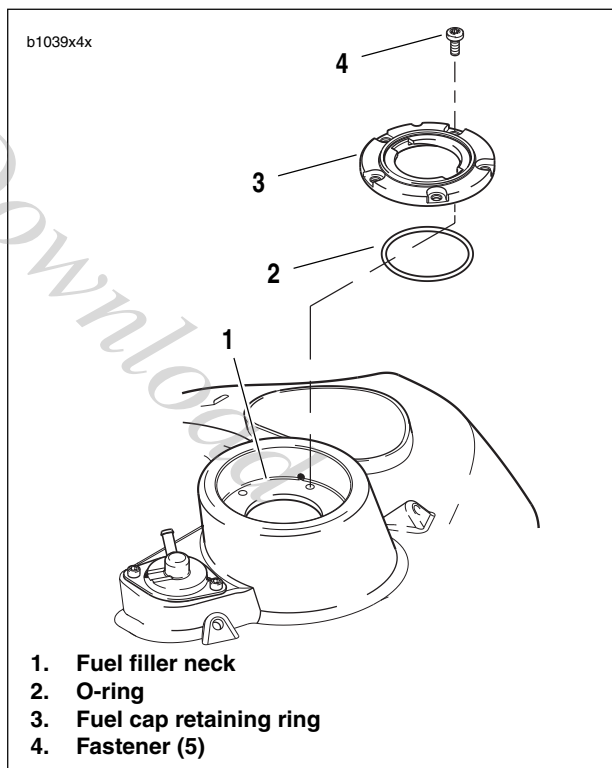

Figure 4-108. Fuel Cap Retaining Ring
3. See Figure 4-108. Remove fasteners (4) securing fuel cap retaining ring (3) to fuel filler neck (1).
4. Remove fuel cap retaining ring and o-ring (2). Discard o-ring.